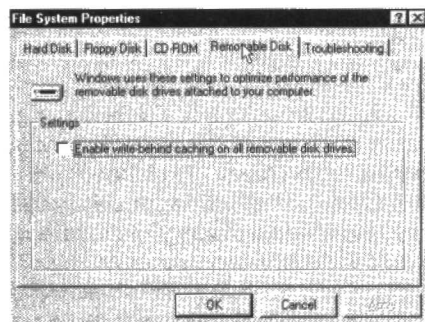

Figure 8. The File System Properties dialog box Removable Disk sheet.
6. Within the File System Properties dialog box, click your mouse on the Removable Disk tab. Windows 98, will display the Removable Disk sheet as shown in **Figure 8**.